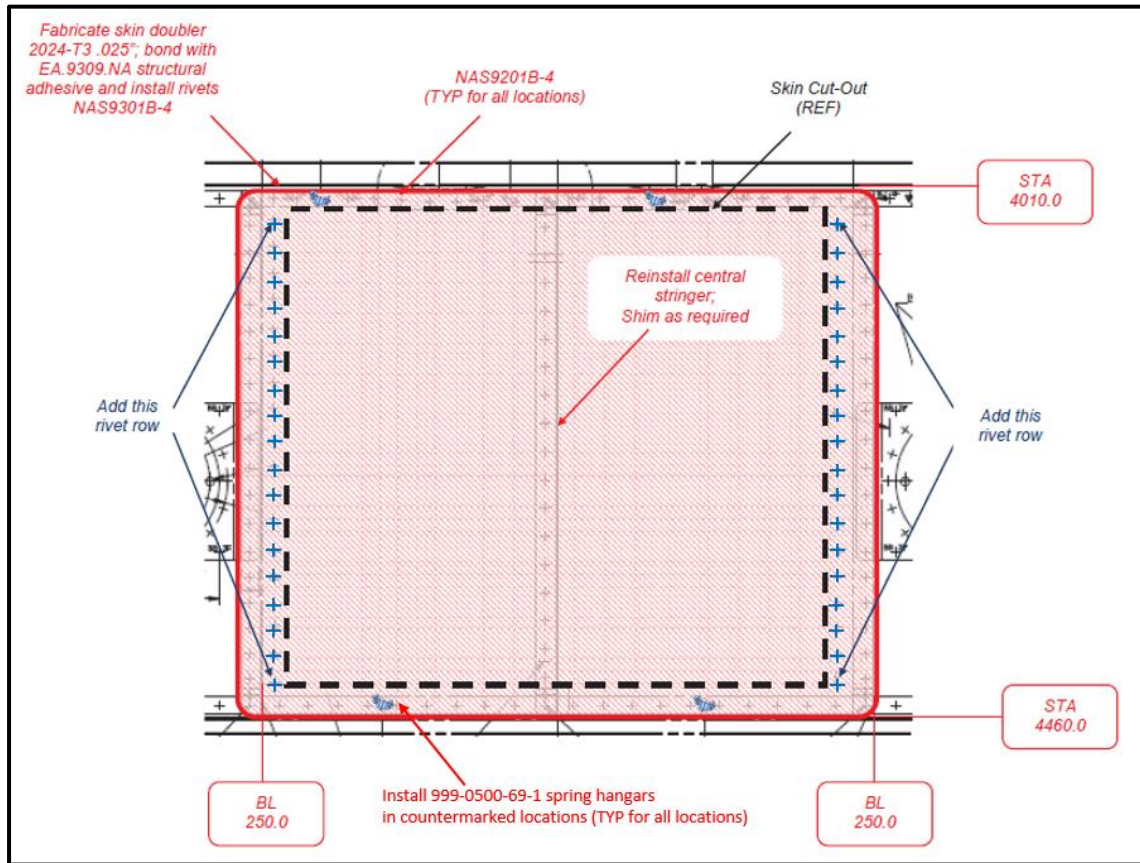

Figure 10 - Beam Assy STA4010.0 to STA4460.0 – Replacement procedures
14. Close the cutout on the shelf assy 109-0322-46-301 in accordance with instruction provided in Figure 10 & 11. (Supplies Ref. 8)
15. Reinstall Spring Hangar P/N: 999-0500-69-1 with washer P/N: NAS1149DN316K and rivets P/N: MS20470AD3 in countermarked locations (Figure10).